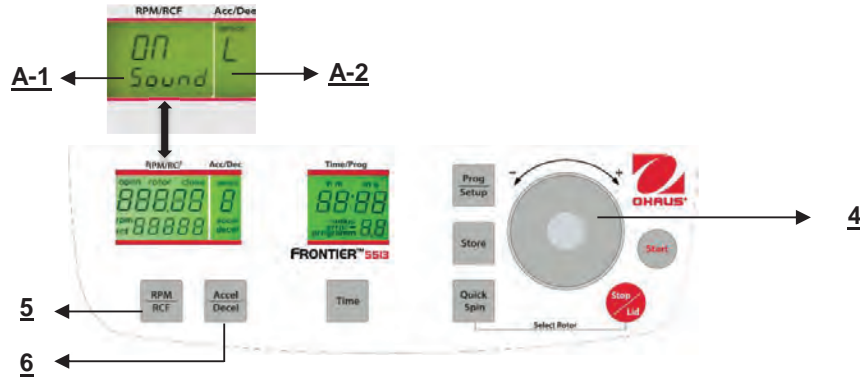

Figure. 30
Proceed as described under point 4.1.2 to enter this program mode and then press the key "**Accel/Decel**" (6). In the display "**Acc/Dec**" (A-2) the word "**Service**" flashes. Now select the letter "**L**" with the adjusting dial (4). As a result, the words "**On Sound**" appears in the display "**RPM/RCF**" (A-1). If you press the key "**RPM/RCF**" (A-1) now, the word "**On**" flashes and you can switch off the sound with the adjusting dial (4) (See figure 30).